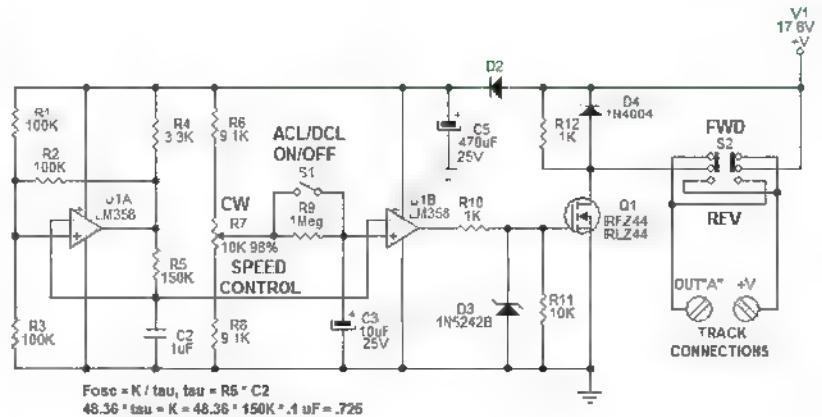

FIGURE 3. Motor speed control application with ACL/DCL.
■ FIGURE 3. Milled out posts.
double C holder. Solder the black wire coming from the board to the negative terminal of the single holder and the red wire to the positive terminal of the double holder. Use double-sided tape to attach the holders to the bottom of the box. Refer to **Figure 3**.
Notice too, that S1, R9, and C3 have been added to the circuit. When S1 is open, the wiper reference voltage changes very slowly as R7 is adjusted up or down, providing a slow fading effect. If used with a motor – such as on a model railroad train – the effect is slow acceleration or a momentum effect. Such a circuit is shown in **Figure 3**.